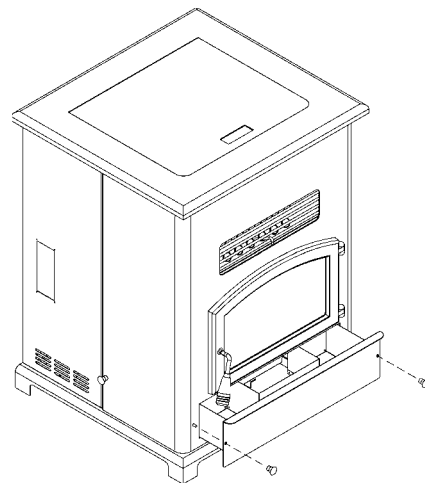

FIGURE 17
- Periodically remove and empty ash bin (see Figure 17) by unscrewing the two knobs on the front of it and pulling it straight out. Dispose of ashes properly. (See “**ASH REMOVAL**” above)